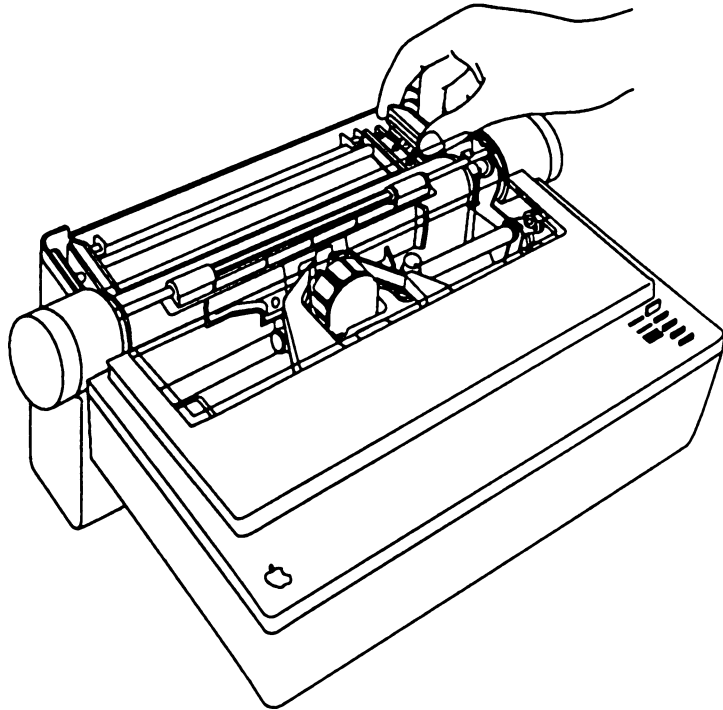

Figure 10. Opening a paper clamp
3. Flip open both **paper clamps** by lifting them in an outward direction. The clamps will spring into an upright position. (See Figure 10).